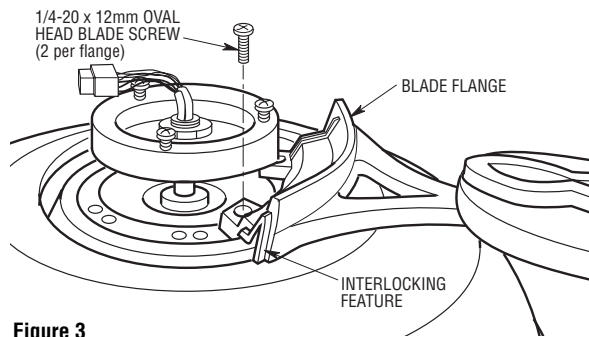

Figure 3
3. Attach the blade/flange assembly using two 1/4-20 x 12mm oval head screws (Figure 3). Install the remaining four fan blades assemblies using the same procedure.